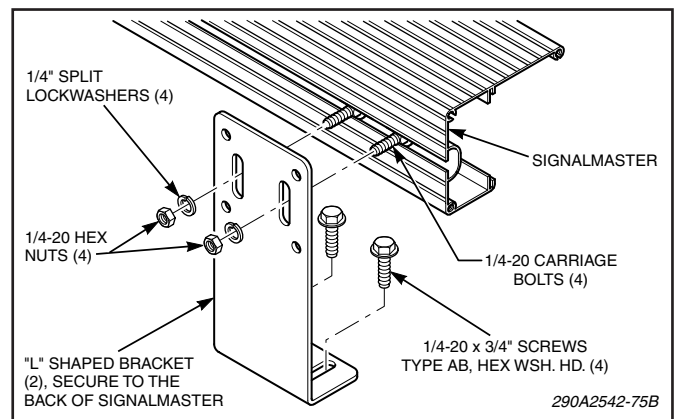

Figure 1.
a. See Figure 1. Assemble the L-shaped brackets to the light assembly using the four 1/4-20 hex nuts and 1/4" split lockwashers. Do not tighten the nuts at this time.